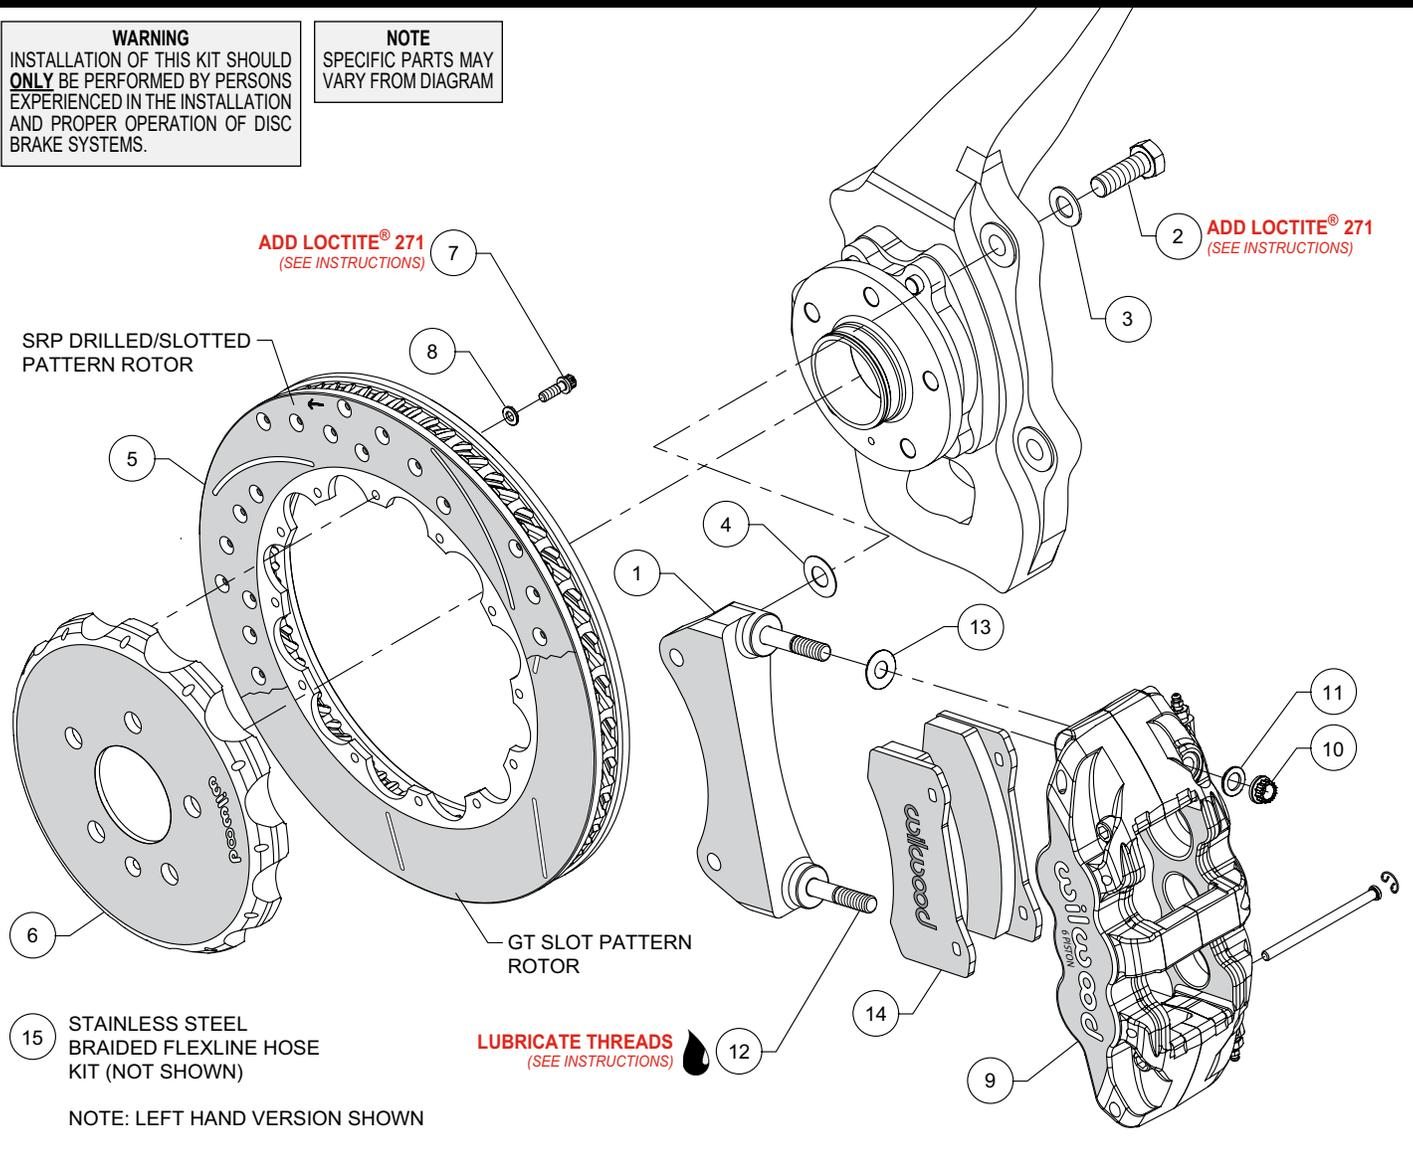
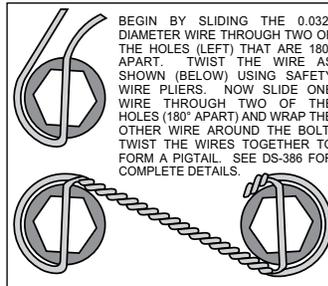

Figure 1. Typical Installation Configuration
Figure 3. Safety Wire Diagram
NOTE: Numbers in parenthesis refer to the parts list and Figure 1 on the preceding pages.
- The caliper mount bracket (1) should initially be installed with clean, dry threads on the mounting bolts. Orient the bracket as shown in Figure 1 and Photo 1, and install using bolts (2) and washers (3). Initially place one .029 thick shim (4) on each bolt between the bracket and upright, Figure 1. Temporarily tighten the mounting bolts. **NOTE:** The bracket must fit squarely against the mounting points on the upright. Inspect for interference from casting irregularities, machining ridges, burrs, etc. Later, after the caliper alignment has been checked, the mount bolts will be secured using red *Loctite*® 271.
- Orient the rotor (5) and the hat (6) as shown in Figure 1 and Photo 2. Attach rotor to hat using bolts (7) and washers (8). Apply red *Loctite*® 271 to the bolt threads and torque to 155 in-lb using a criss-cross pattern. For an added measure of security, the bolts may be safety wired using standard 0.032 inch diameter stainless steel safety wire as shown in Figure 3. Please refer to Wilwood's data sheet DS-386 (available at www.wilwood.com/Pdf/DataSheets/ds386.pdf) for complete safety wire installation instructions.
- NOTE:** This kit contains distinct right and left hand calipers that must be mounted in a specific direction, as described below. Lubricate the caliper mounting studs (12) with lightweight oil. Initially place one .030" thick shim (13) on each stud between the caliper and the bracket, as shown in Figure 1 and Photo 5. Mount the caliper (9) onto the bracket (1) using lock nuts (10) and washers (11), Figure 1. Ensure that the caliper is mounted so the largest pistons are at the rotor exit end of the caliper, in relation to the direction of rotor rotation. Temporarily tighten the lock nuts and view the rotor through the top opening of the caliper. The rotor should be centered in the caliper, Photo 6. If not, adjust by adding or subtracting shims (4) between the bracket and the upright. Always use the same amount of shims on each of the two mounting bolts. Once the caliper alignment is correct, remove the bracket mounting bolts (2) one at a time, apply red *Loctite*® 271 to the threads, and torque to 77 ft-lbs.
- Remove the two pad retaining pins from the caliper (9) by carefully popping out the pin retaining clips and sliding out the pins. Insert the brake pads (14) into the caliper from the bottom, Figure 1 and Photo 7. With the friction material facing the rotor, secure the brake pads in place with the pad retaining pins and clips, Photo 8. Reinstall the caliper onto the caliper mounting bracket and temporarily tighten the lock nuts (10). Check that the top of the brake pad is flush with the outside diameter of the rotor, Photo 9. If not, adjust by adding or subtracting shims (13) between the caliper and the bracket. After the caliper pad height is set, torque the caliper lock nuts (10) to 47 ft-lb.